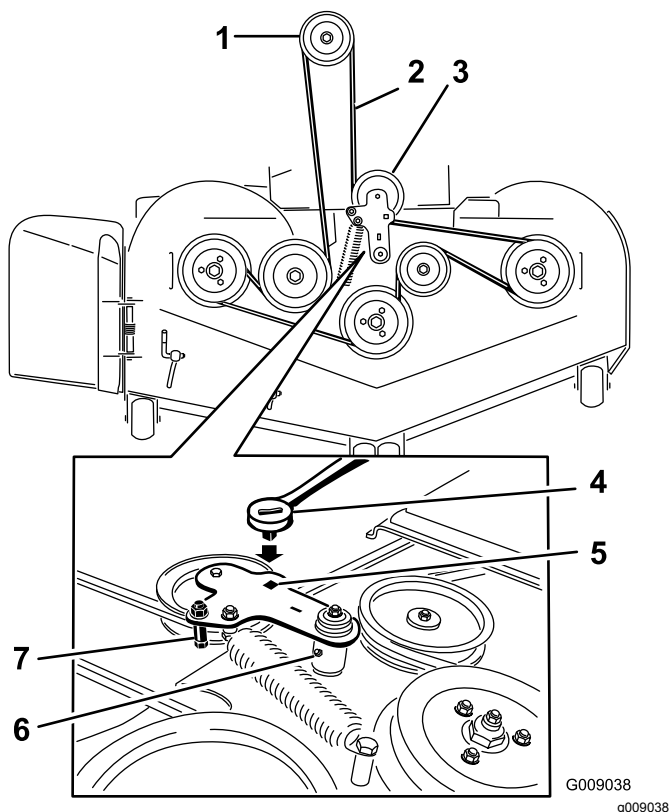

Figure 86
7. Use a ratchet in the square hole in the idler arm to remove tension on the idler spring (Figure 86).
9. Remove the belt guide on the spring loaded idler arm shown in Figure 86.
11. Install the new belt around the mower pulleys and the clutch pulley under the engine (Figure 86).
12. Install the belt guide on the idler arm shown in Figure 86.
13. Using the ratchet in the square hole, install the idler spring (Figure 86).